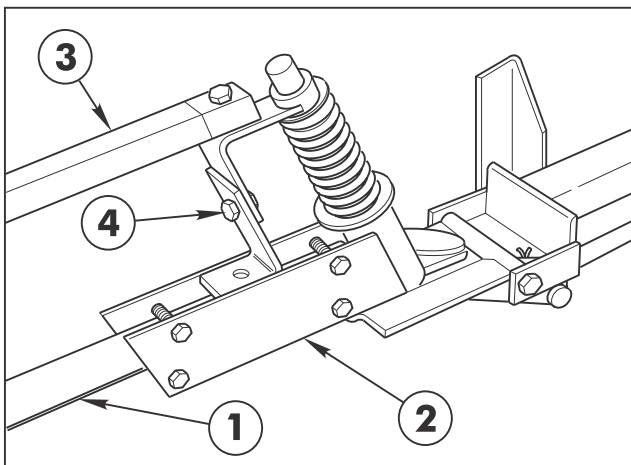

FIG. 7
15. Insert the plugged end of an Extension Boom Pipe into the Pivot Assembly and secure with four (4) 1/4" x 1-1/4" cap screws and lock nuts (See FIG. 7). Repeat on the opposite side to assemble the other Extension Boom.
16. Attach the LH Boom Support Assembly to the Pivot Assembly, using a 5/16" x 1-1/2" cap screw and lock nut. (See FIG. 7 & 8)